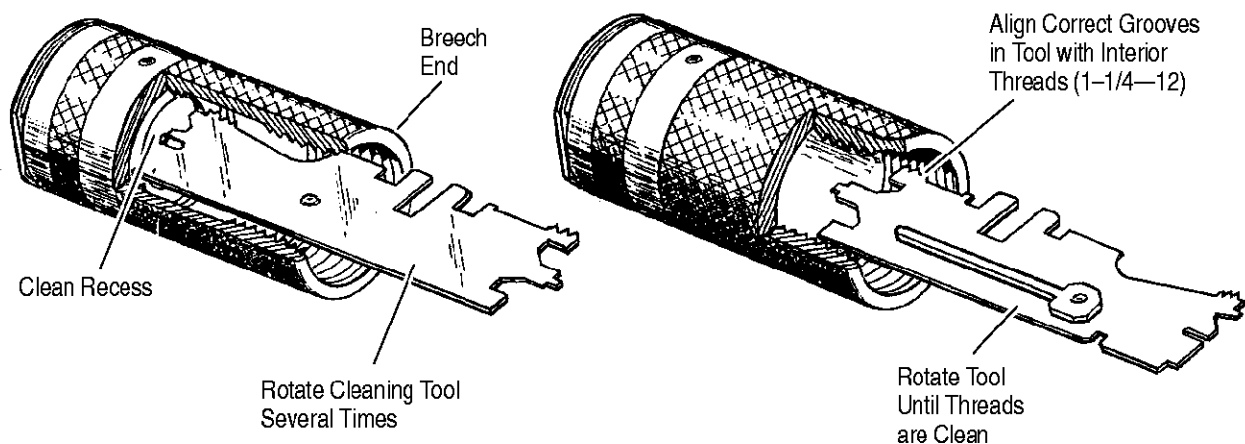

Figure 46
1. Clean piercer pin guide and surfaces indicated in Figure 46, Detail A, by inserting correct end of cleaning tool into gas release end of sleeve. Rotate tool several times making sure that all surfaces are clean. If pin guide hole is oval or worn, return entire breech cap assembly for replacement or repair.
3. Clean recess in breech cap sleeve by inserting correct end of cleaning tool into front of sleeve as shown in Figure 46, Detail B. Rotate cleaning tool until recessed surface is clean. To clean interior threads (11/4 - 12) in the breech end, insert correct end of cleaning tool as shown in Detail B. Make sure grooves in tool are aligned with threads. Rotate until clean.